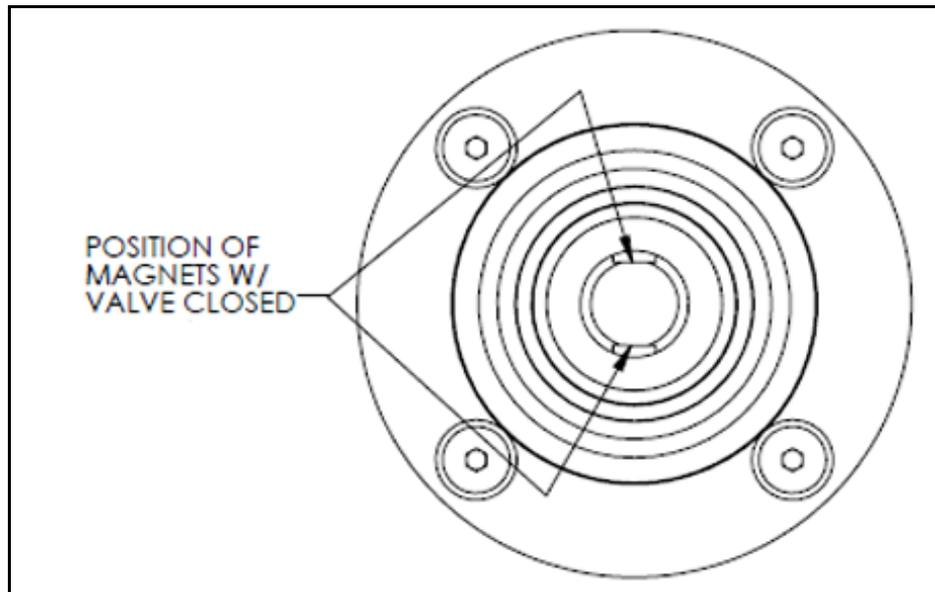

Figure 21 Magnet Position with Valve Closed
5. Ensure the turnbuckle assembly is parallel to the stem and the magnets are in the valve closed position (Figure 21) and connect to take-off bracket.